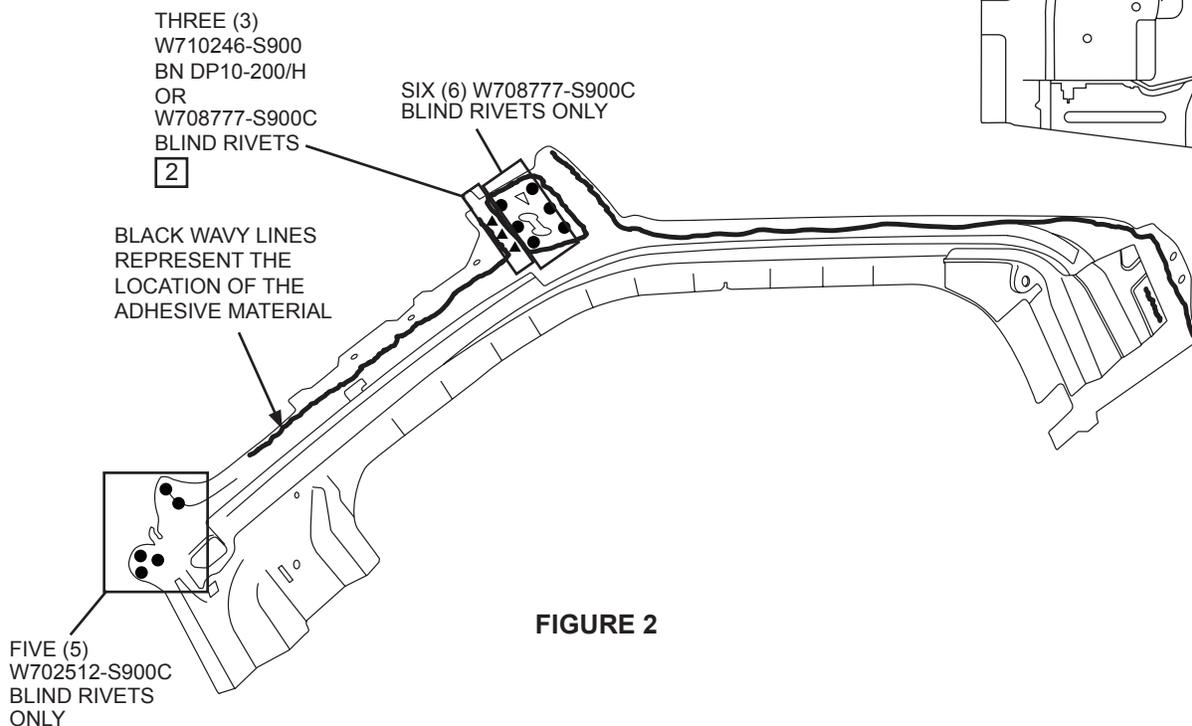

FIGURE 2
- (Refer to Figure 2) for optional SPR rivet types, locations, and installation and Mandrels.
- (Refer to Figure 2) for location for adhesive material.
NOTE: The location of SPR and adhesive shown below are based on the original production drawings and should only be used as a guideline. (Refer to Figure 2).